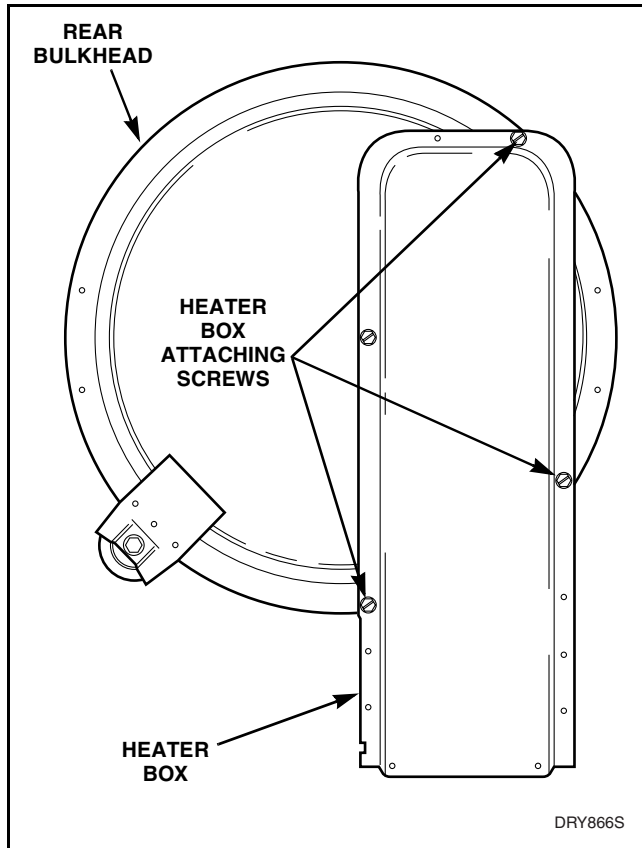

Figure 35
- (1) Refer to *Figure 35* for removal.